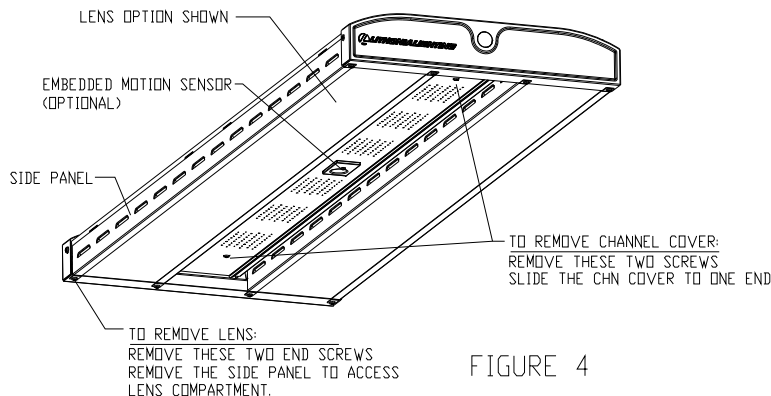

FIGURE 4
- 1) Remove the bottom ballast cover by removing the screws at the end. Slide the cover to one end and remove. **SEE FIGURE 4.**
- 6) To clean the lens, remove the two end screws for the side panel. Remove the side panel. Do not lose screws. Place side panel in a safe location to avoid dropping to floor. Slide the lens out and wipe clean. **SEE FIGURE 4.**